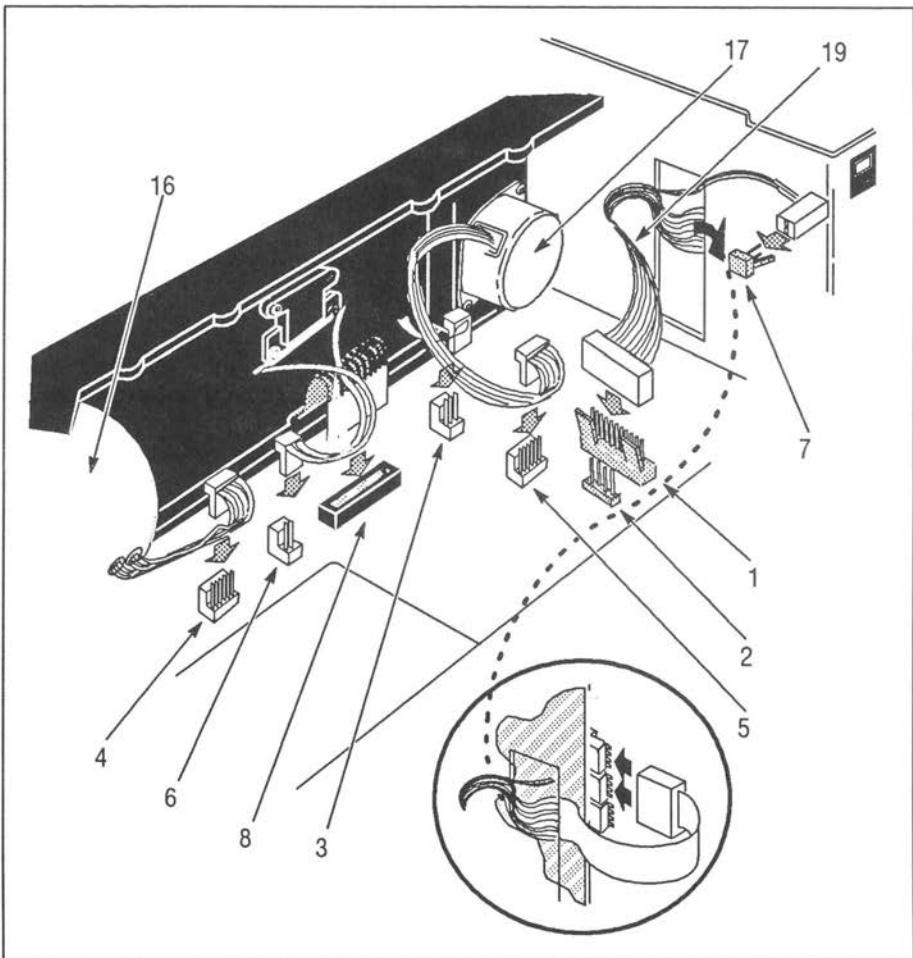

Figure 7-9. Print Mechanism Cable Connections and Test Points
4. See figure 7-9 and tables 7-3 and 8-1 to identify and remove the following printer cables. Remove the print carriage motor cable from connector P268. Remove the optical sensor cable from connector P259. Remove the flexible print cartridge cable from J249, noting that it only makes contact on one side. Remove the out-of-paper sensor cable from connector P250. Remove the paper drive motor cable from connector P251.
The unit is now completely disassembled. To reassemble the instrument, follow this procedure in reverse. Refer to figures 7-9, 7-11, and 8-1 for parts and cable placement details. All self-tapping screws should be replaced with new screws.